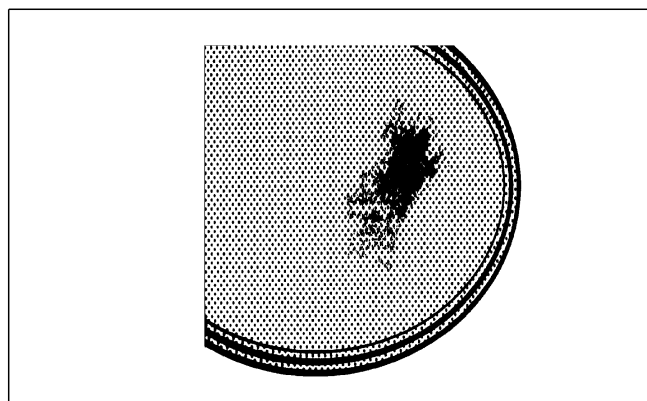

FIG. 4
- After a period of time may appear metal reflex and scratches (fig. 4) due to the wrong cleaning and the wrong use of the pots. The scratches are difficultly removable, but they do not compromise the good working of the hob.